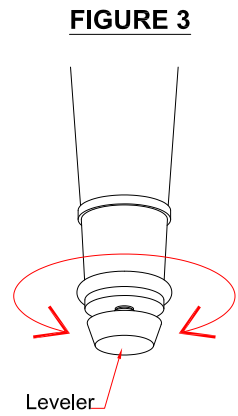

FIGURE 3
5. Preset the bookcase in the desired location, and check the leveling. If it does not seat level, adjust the levelers underneath the legs. See FIGURE 3.